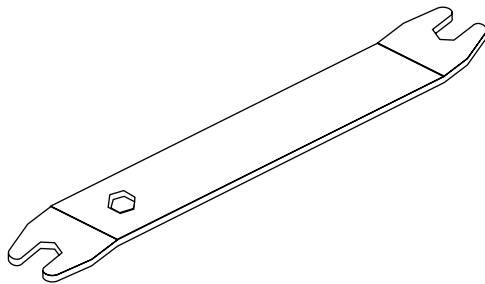

Figure 5-32 I/O Wrench
- Use the I/O wrench to remove the screws from the I/O panel. See Figure 5-32.